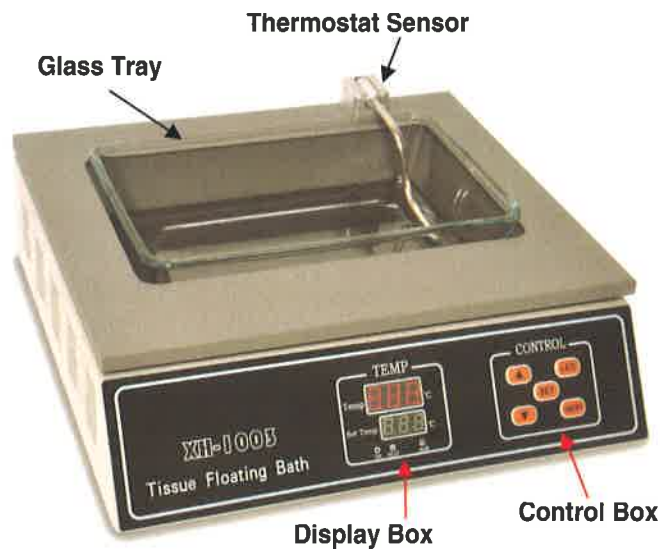

Figure 1
- (1) Remove the machine from the box and place the equipment on a safe stable location near an electrical outlet (115V unless made for 230V). Keep all original packaging in storage.
- (2) Remove the glass tray and look for any visible damage to the machine, glass tray or its contents. Please use the instructions above for handling issues regarding shipping damage.
- (3) Flip metal thermostat sensor up (out of the way) and insert the glass tray into the proper position in the middle of the machine.
- (4) Flip the thermostat sensor down into place inside the glass tray. If this is not done, the bath will not heat.
- (5) Fill the glass tray with DI or Distilled water to the point that the sensor is submerged and at least 25mm (1") from the top of the glass tray. (**Figure 1**)